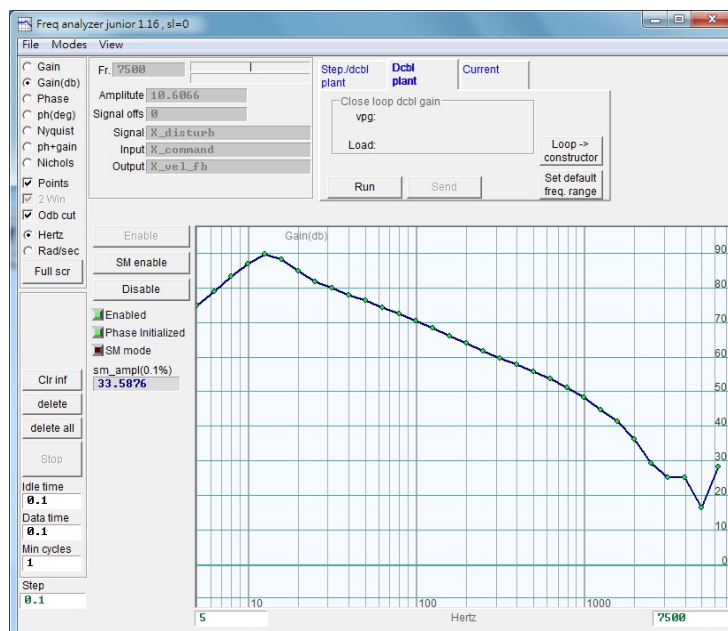

Figure6.6.3.3
Step 4: Left click on the graph to show a reference line (-20dB). Move the reference line to the frequency response line, as figure 6.6.3.4. The gain will be recalculated and updated in the field of **vpg**. The gain is increased when the reference line is moved downward. The gain is decreased when the reference line is moved upward.